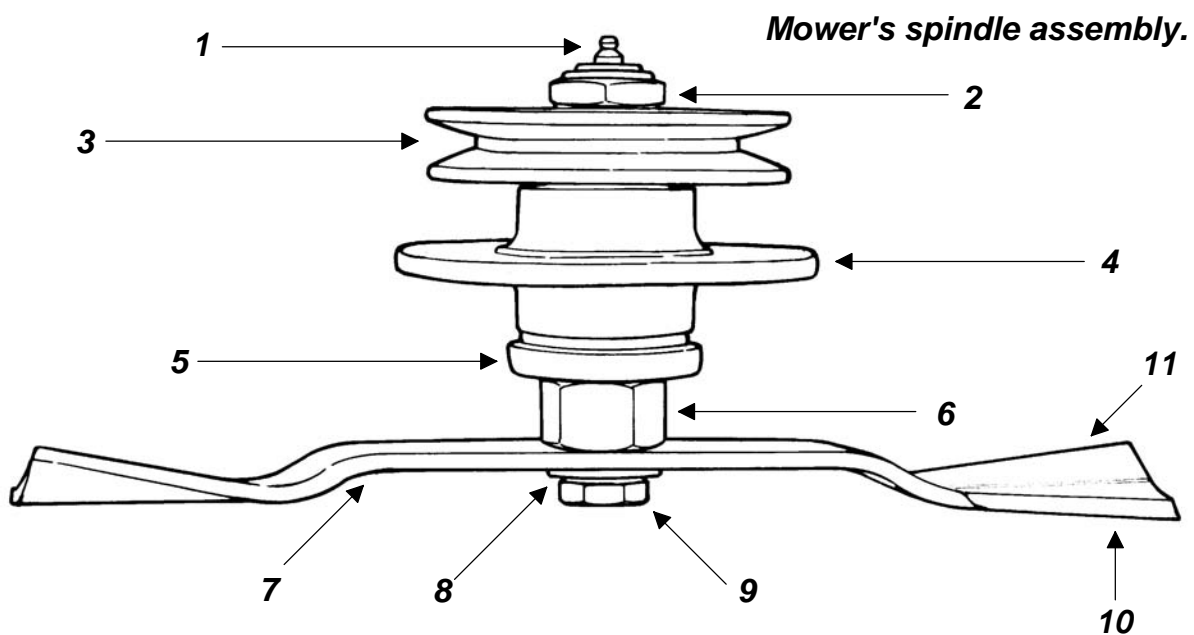

Fig. 14
1. The blade turns in a **counter clockwise** direction when viewed from the bottom of the deck. The cutting edge must be towards the direction of rotation. The lift wing of the blades is closest to the deck and the cutting edge away from it (**see fig. 14**).
2. Install the cup washer (**see fig. 14**) over the blade bolt and secure the blade in place as described above.